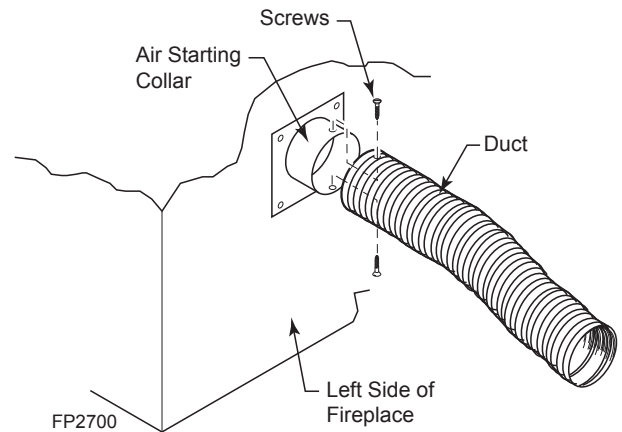

Figure 27 -
6. Select and cut a piece of duct long enough to attach to the fireplace and stick out at least 3" beyond the face of the wall to which the AK-4 inlet air vent will be attached. *Figure 27*